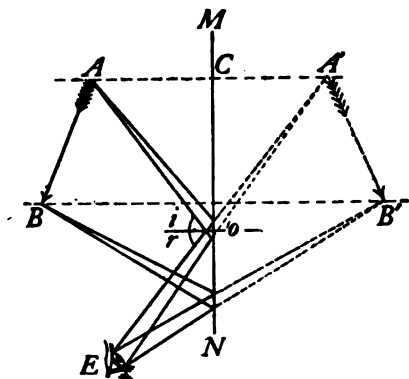

FIG. 356.—The image  $A'B'$  is as far back of the mirror  $MN$  as the object  $AB$  is in front of the mirror.
**365.** To locate the image of an object formed by a plane mirror *requires* simply an application of the law of reflection. Thus in Fig. 356 let  $AB$  represent an object and  $MN$  a plane mirror. Let  $AA'$  be a ray from  $A$  striking the mirror *perpendicularly*. It is therefore reflected back along the same line toward  $A$ . Let  $AO$  represent any other ray from  $A$ . It will be reflected along  $OE$  so that angle  $r$  equals  $i$ . The intersection of  $AC$  and  $OE$  at  $A'$  behind the mirror locates the image of the point  $A$ , as seen by reflection from the mirror. The triangles  $ACO$  and  $A'CO$  may be proved equal by geometry. Therefore